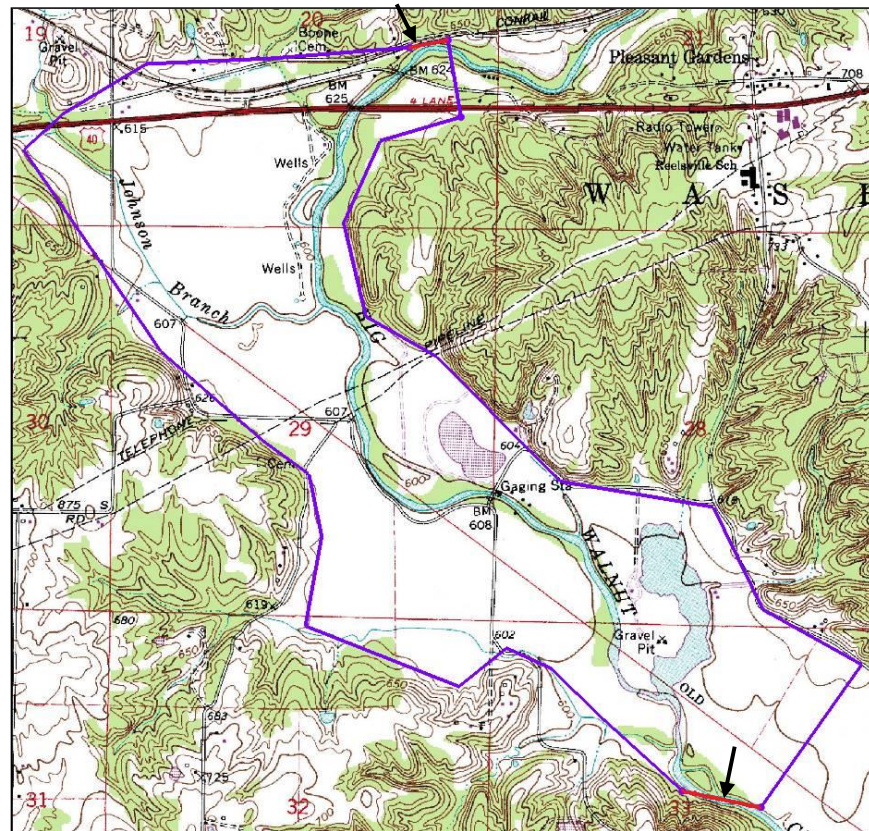

Figure 5 Specified head arcs
1. Using the **Select Arcs**  tool while pressing the *Shift* key, select the two new arcs that were created on the north and south of the boundary (Figure 5).